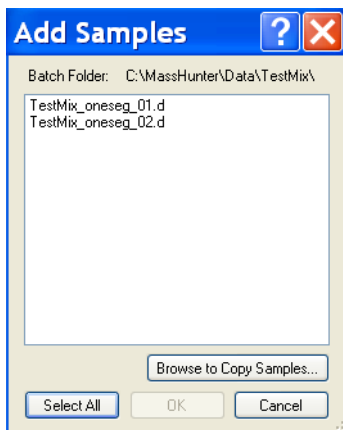

Figure 24 Add Samples dialog box
- b** Select the acquired MRM data file from the **Add Samples** list, then click **OK**. See Figure 24.